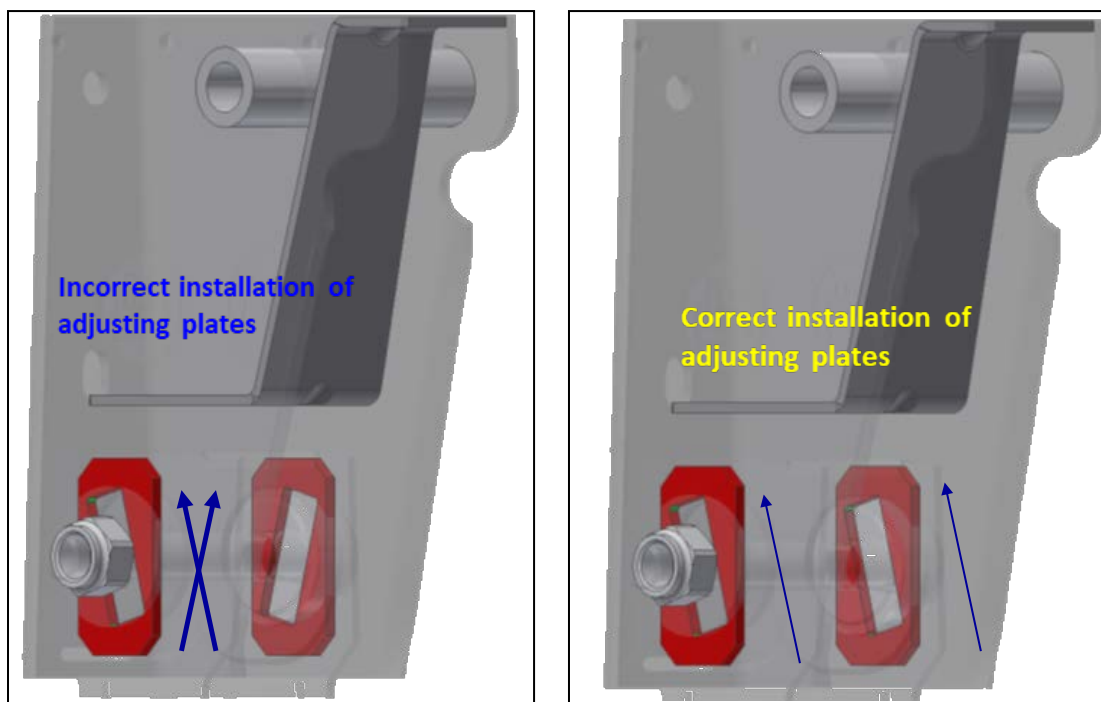

Figure 5
2. Adjusting plates (for wheel alignment) are installed correctly. The plates must point the same direction and be level, see Figure 5. This will ensure the tightness of the pivot bolt.